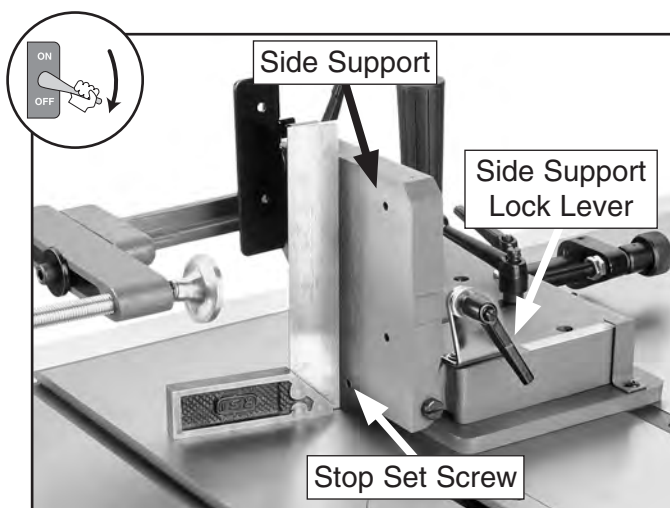

Figure 14. Adjusting the side support perpendicular to the saw table.
5. Thread the positive stop set screw far enough away from the side support so that it will not interfere with the next step (see **Figure 14**).